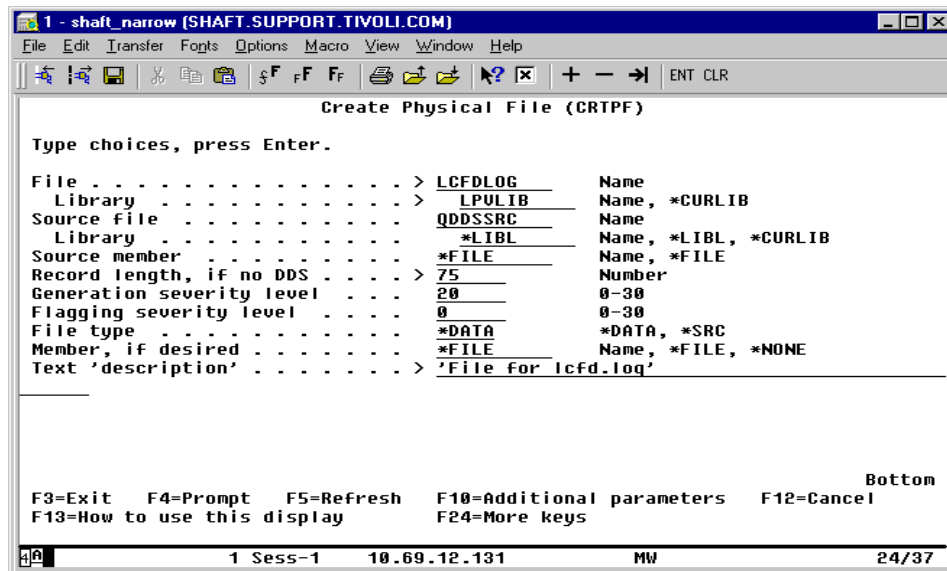

Figure 37. Create Physical File (LCFDLOG)
1. Use the Create Physical File command to create a file called `LCFDLOG` in the `LPVLIB`. The command specification we used is shown in Figure 37 on page 110.